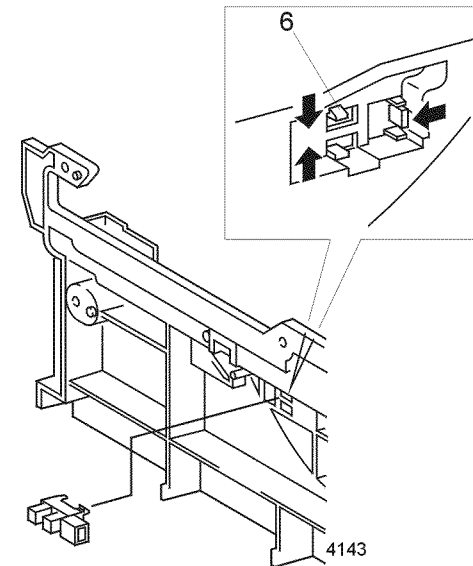

Figure 1 Tray 1 Low Paper Sensor
6. Release the locking tabs and remove the sensor from the Guide Assembly (Figure 1).